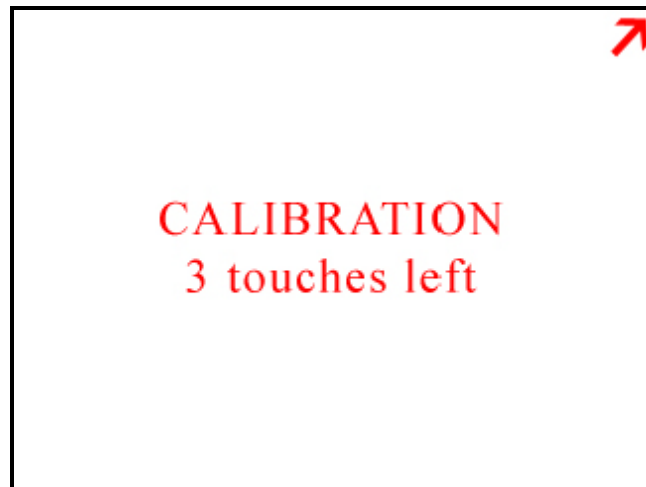

Figure 5-28 Alignment step 2
- Touch the circle in the upper right corner. See Figure 5-28.